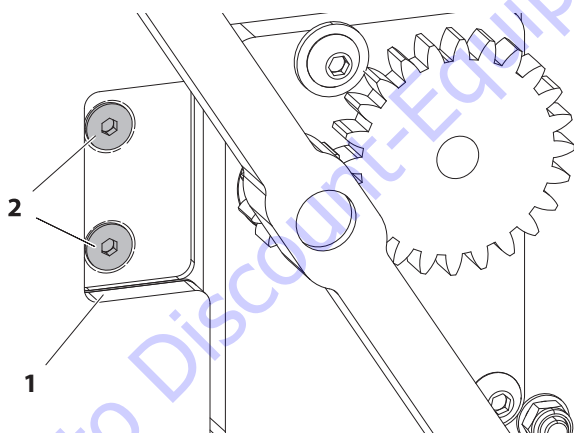

Figure 3-16. Belt Clamp Mounting Bolts - Ecolift
- a. The head of the belt clamp mounting bolts must first be aligned with the access hole in the flywheel mounting plate on the front of the mast. (See Figure 3-16.) This is so they can be kept from turning while removing the nuts inside the inner mast section.